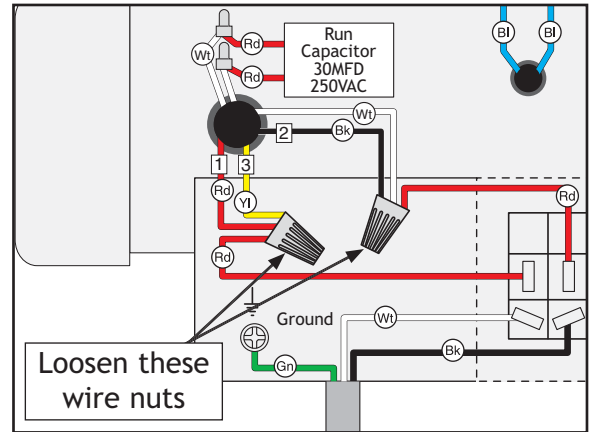

Figure 4. Location of wire nuts to be loosened when converting voltage.
2. Open the motor junction box, then loosen the wire nuts indicated in **Figure 4**.